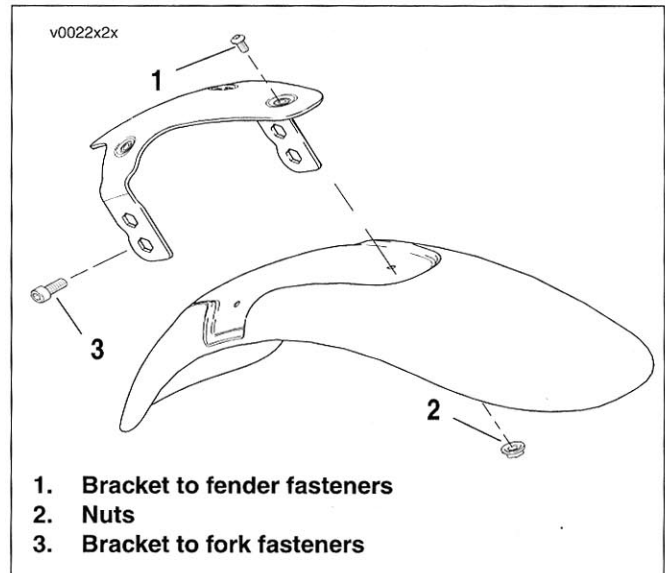

Figure 2-86. Front Fender
1. See Figure 2-86. Remove fasteners (3) from front fork and remove fender and bracket.
1. See Figure 2-86. Attach fender to fender bracket. Tighten fasteners (1, 2) to 4.1-6.8 Nm (36-60 in-lbs).
2. Position fender and bracket in front fork and secure with fasteners (3)/ Tighten to 20-26 Nm (15-19 ft-lbs).